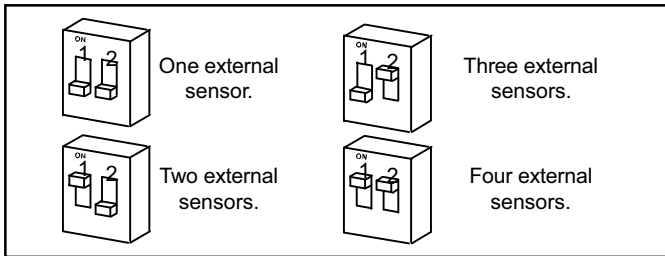

Figure 7. SW6 Optional External Sensors
- SW6 External Sensor Figure 7